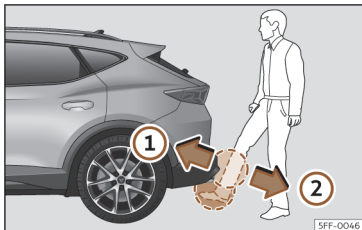

Fig. 86 Rear lid with sensor-controlled opening (Easy Open).
- With a brisk movement, bring your foot and lower leg as close as you can to the bumper. The lower part of the leg needs to be close to the upper sensor area and your foot must be close to the lower sensor area >>> **Fig. 86 ①**.
- Quickly remove your foot and lower leg from the sensor areas >>> **Fig. 86 ②**. The rear lid will be automatically opened.